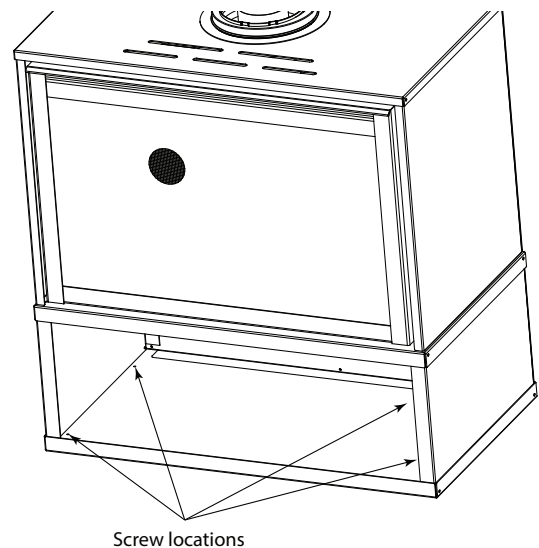

Figure 6.24
3. For mobile home installations, secure the CK-30 cabinet to the floor using screws through the holes in the bottom of the cabinet. See Figure 6.24.